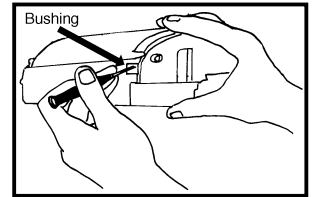

Figure 6
5. Turn the cartridge so the toner hopper is toward you. On the right hand side, there is another round bushing (located inside the slot casing). Pry the bushing off with a small flathead screwdriver. **Note:** If the bushing falls inside the cartridge, it is possible to remove it later (Fig. 6).